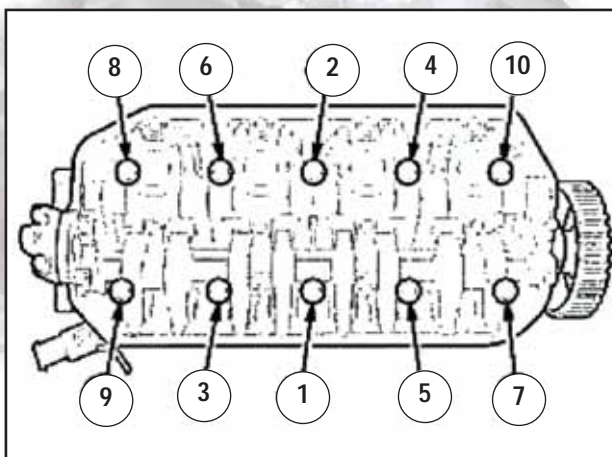

Figure 2 Torque sequence for 1988-'95 1.6L Honda Civics (non-VTEC). Oil leaks and coolant loss may be eliminated by using an MLS head gasket.
4) Apply engine oil to the threads and washers of the new cylinder bolts. Install the bolts, and torque them in the sequence and steps shown in **Figure 2**, below. Do not use the head bolt tightening steps in the Honda service manuals.